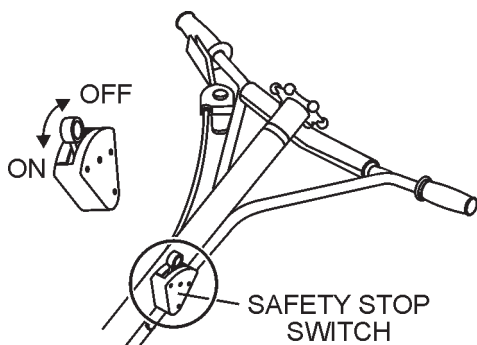

Figure 19. Centrifugal Safety Stop Switch
- Place the **centrifugal safety stop switch** (Figure 19) in the "ON" position.